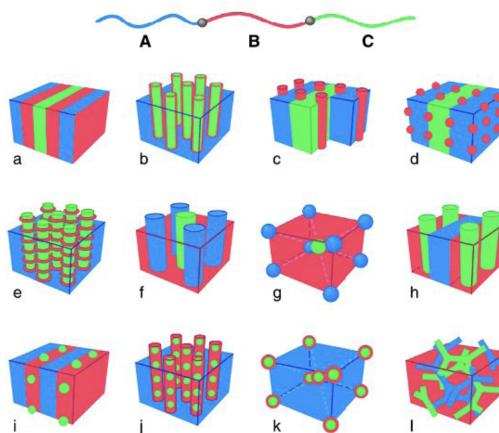

Figure 2.15: Self-assembly of an ABC triblock copolymer.
- If we have something like (a) of Figure 2.15, then we probably have  $N_A = N_B = N_C$  (because everything is nice and equally ordered) and  $\chi_{AC} < \chi_{AB} \approx \chi_{BC}$  (because we have AB and BC interfaces, but not AC interfaces).
- If we can do everything in Figure 2.15 with 3 things, imagine how much we can do with the 20 amino acids!
- **Min-max principle:** Phases are most stable when we (1) minimize interfacial energy and (2) maximize the conformational entropy of the chains.